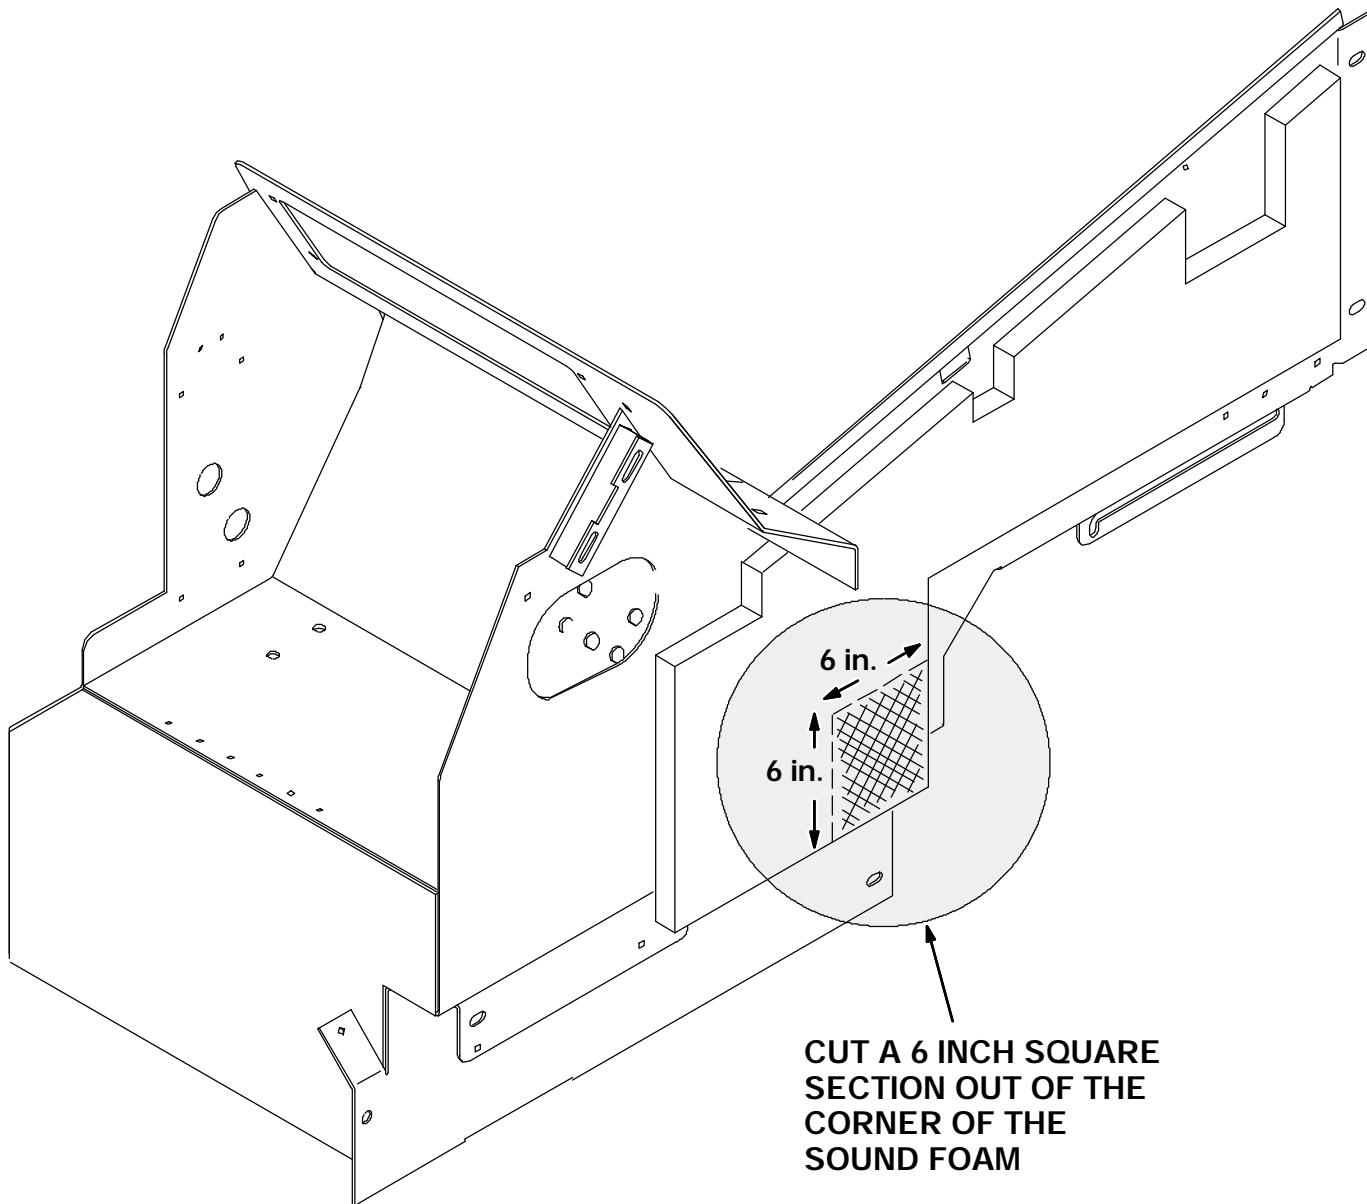

FIG. 1 - Sound Foam Re-work
(Refer to FIG. 1, 2 and 3)
2. Locate the sound foam on the inside of the operators compartment side panel. (Refer to FIG. 1)
3. Move any hydraulic or LP hoses away from the area where the new intake tube (1) will be installed.
4. Cut a 6 inch by 6 inch corner from the sound foam. (Refer to FIG. 1)